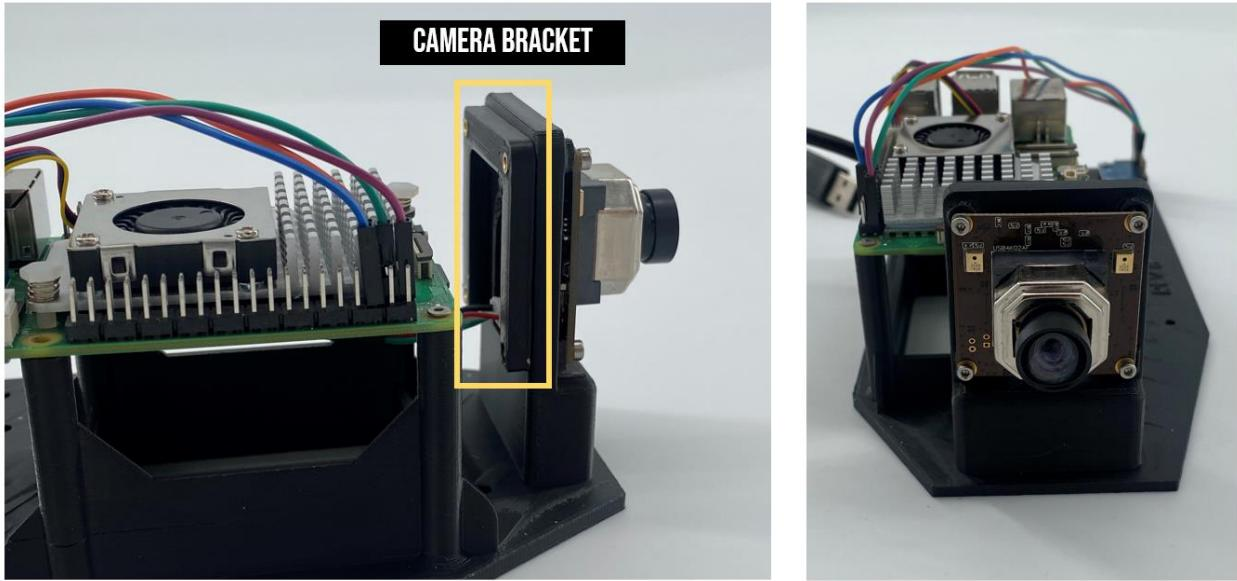

Figure 20. Connect camera.
3. Screw in the camera, make sure it is right side up (Figure 20).